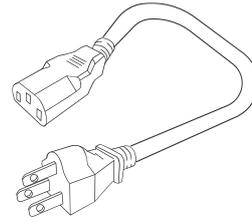

Figure 2-5
- Control Box Power Supply Cable (Figure 2-5)